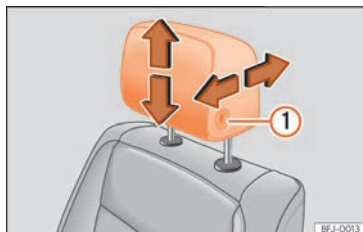

Fig. 94 Front seat: adjusting the head restraint.
- Move the headrest up or down in the direction of the corresponding arrow. Regarding the rear headrest, to both raise and lower, press the button » Fig. 94 ①; for the rear headrests it is
- Move the head restraint forward or back in the direction of the corresponding arrow while pressing the button » Fig. 94 ①.